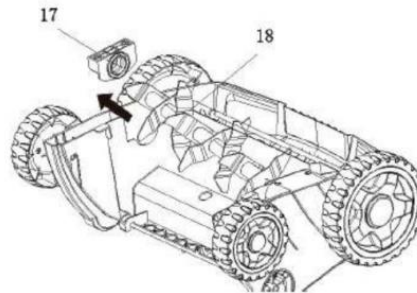

Fig. 10
2. Raise the cylinder (18) at an angle and remove the drive shaft.
3. Remove the bearing shell (17) from the cylinder (18).
4. Install the bearing shell (17) onto the new cylinder (18). (See Fig. 10)